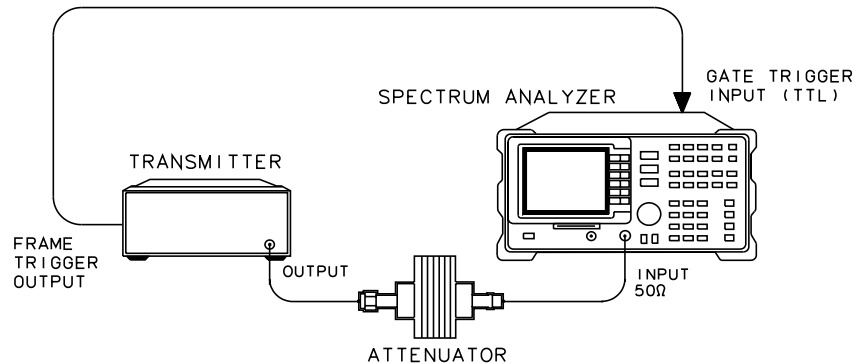

Figure 20 Test Setup Transmitter Spurious Emissions - TX Band/Outside Band
- 3 Press **TX BAND**. Refer to Figure 20 on page 61 for the test setup. The spectrum analyzer scans the band indicated and lists in a table the spurious signals that are found.